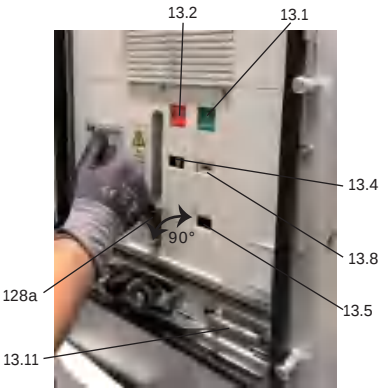

Figure 67 Manual operation of the withdrawable part with V-max circuit-breaker
- Position the service truck, with the adjustable bench-top guide pins, at the correct height facing the panel front and allow the catch to engage (Fig. 67)